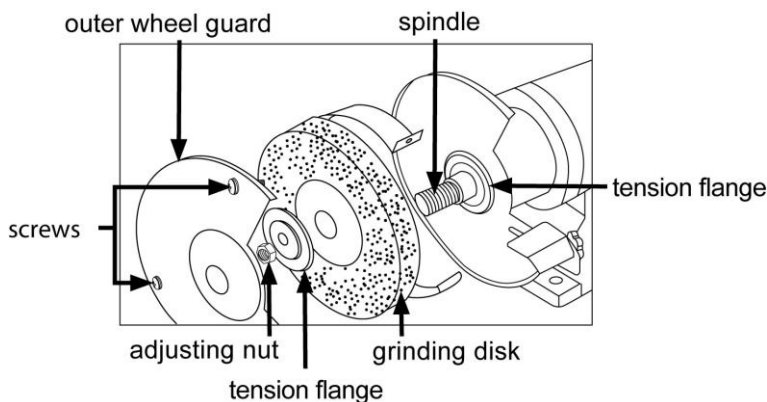

Fig.4
- 1.Remove the viewing window (4) with spark deflector (5) and the outer wheel guard (6).The wheel guard can be removed by removing the three screws on the outside with a Philips screwdriver. (Fig.4).
- 2.Loosen the internal adjusting nut with a 19 mm open-jaw wrench. Remove the nut and the tension flange (8).